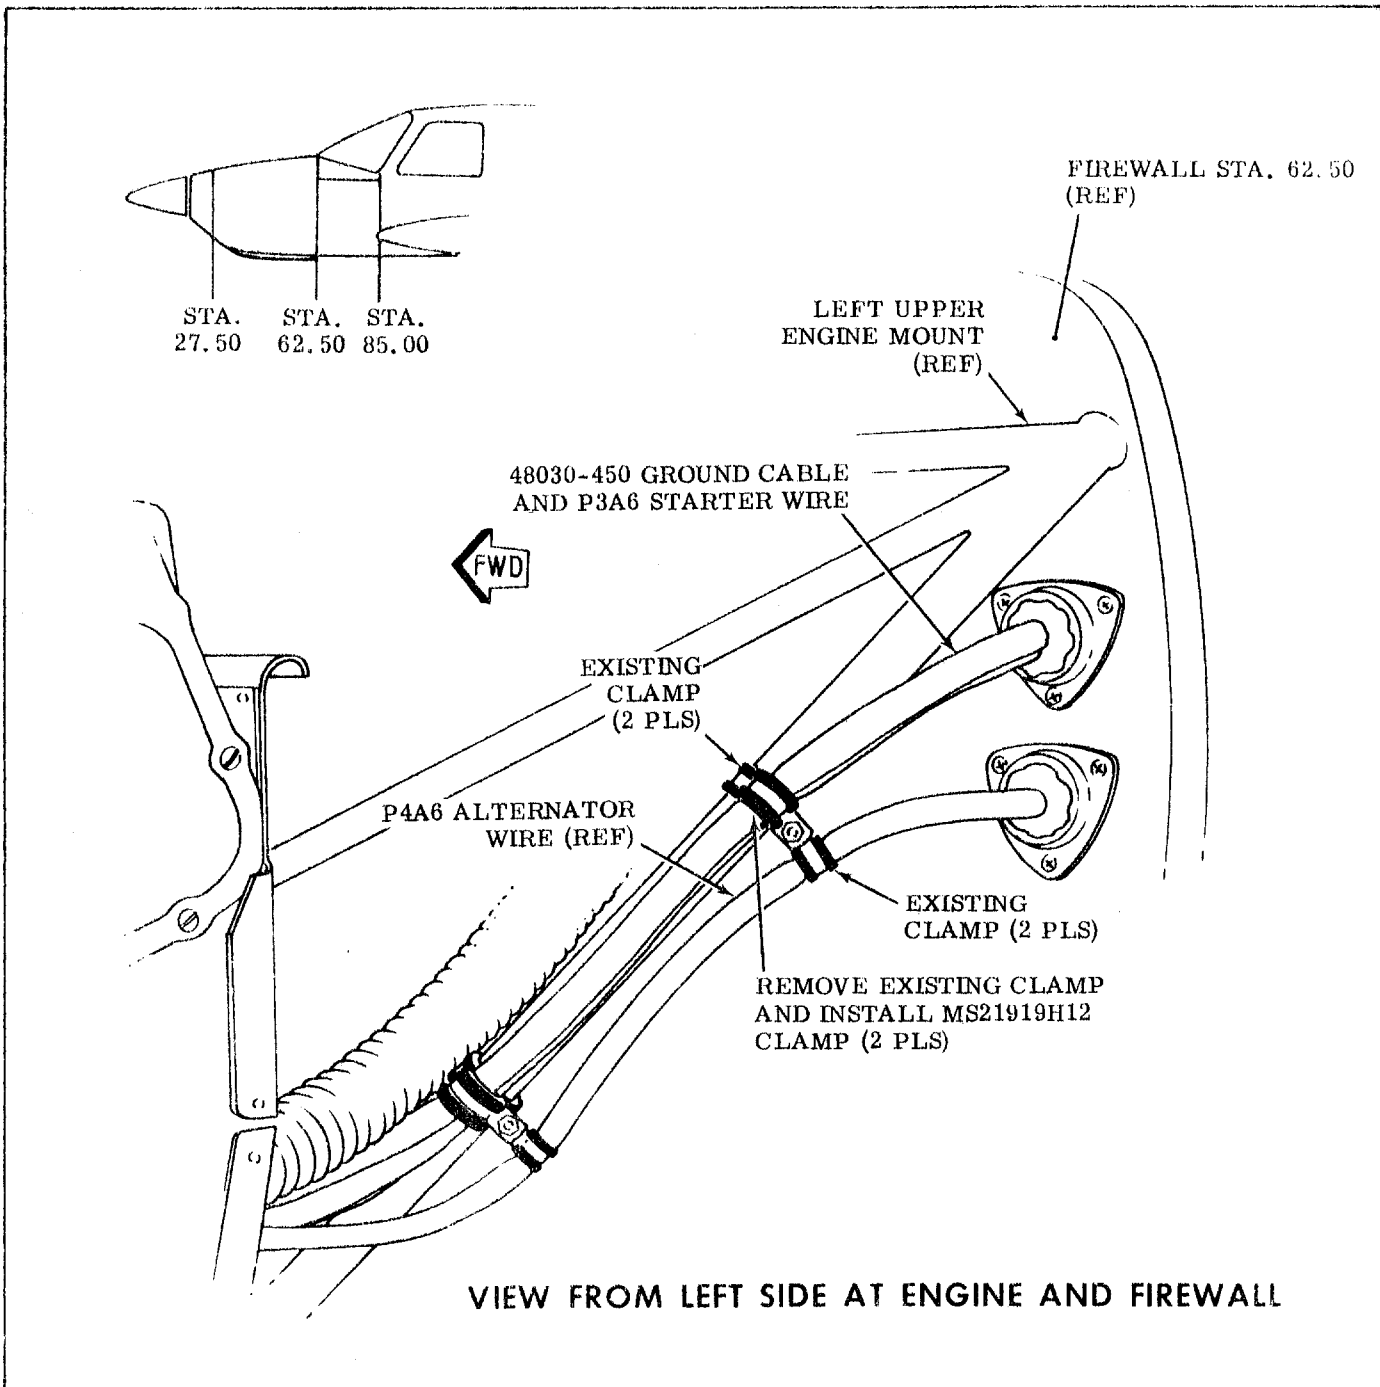

Figure 4.
11. Route 48030-450 ground cable through engine firewall and attach to fuselage frame, at Sta. 80.30, with AN4-5A bolt, AN960D416 washer (2 places) and MS21044N4 nut (see Figure 4. and 5.).